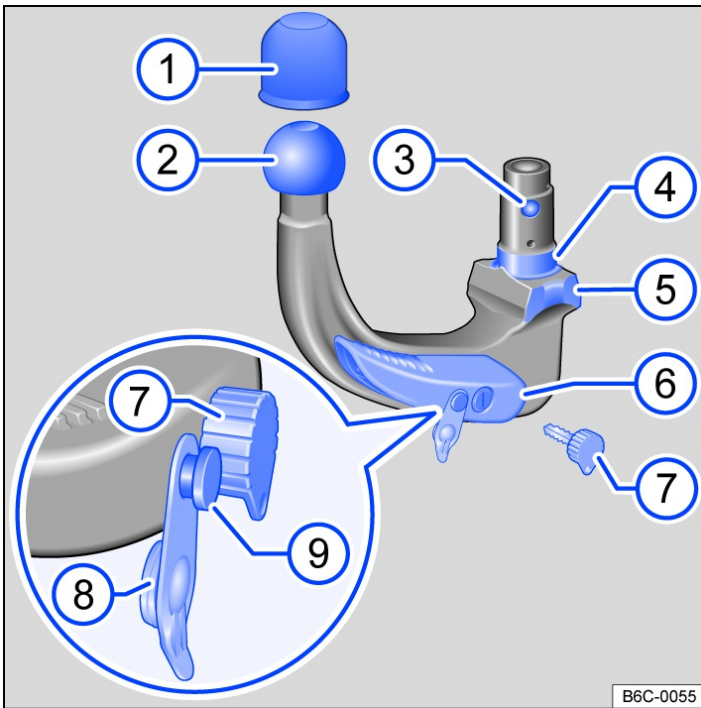

Fig. 1 Overview: removable ball head.
- If the smallest diameter on the ball head → Fig. 1 ③ is smaller than 49 mm, do not use the towing bracket.
- Remove the lock cap *→ Fig. 1* (8) from the lock in the locking lever and insert the key (7) into the lock.
- Turn the key (7) anti-clockwise until the part of the key with the hole is at the top.
- Hold the neck of the ball head under the ball head (2) with your hand.
- Press the release pin (9) and at the same time press the locking lever (6) down as far as it will go *→* ⚠. The ball head is pre-tensioned.
- Release the locking lever (6) and stow the pre-tensioned ball head safely with the vehicle toolkit.